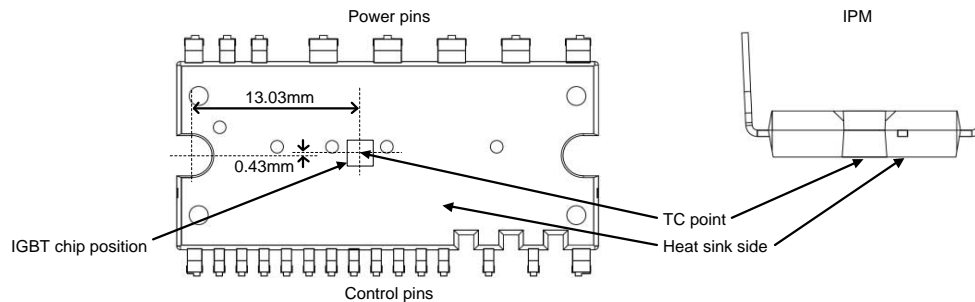

Figure 1. T_C Measurement Point
| T_C | Module Case Operation Temperature | Measurement point of T_C is provided in Figure 1 | -30 to 125 | $^\circ\text{C}$ |
1. For the measurement point of case temperature (T_C), please refer to Figure 1.